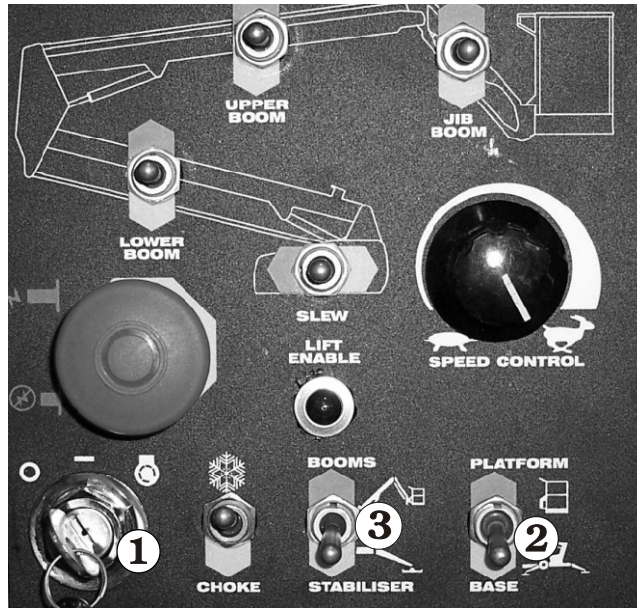

Figure 10.11
1. Insert the key **1** into the **Master Key Switch** at the ground control box and turn the key on (see Figure 10.11).
2. Set the **Platform/Ground Selector** **2** (see Figure 10.11) at the ground control box to PLATFORM.